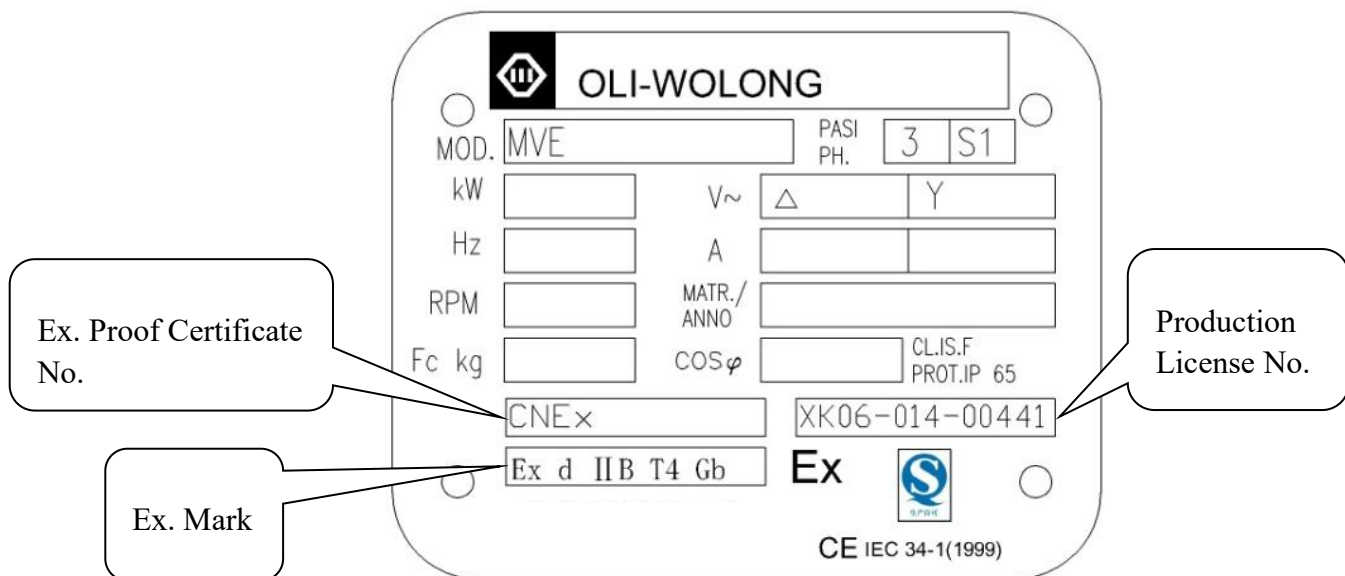

Figure 6-2. Explosion-proof motor nameplate
6.4.2 Check whether the nameplate data meets the requirements, refer to Figure 6-2.